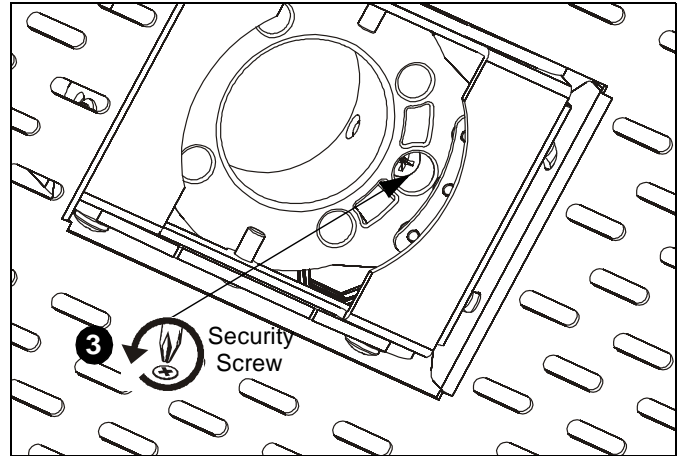

Figure 2
3. Loosen security screw on bottom of RPAX1 sleeve until set screw is fully exposed. (See Figure 2)